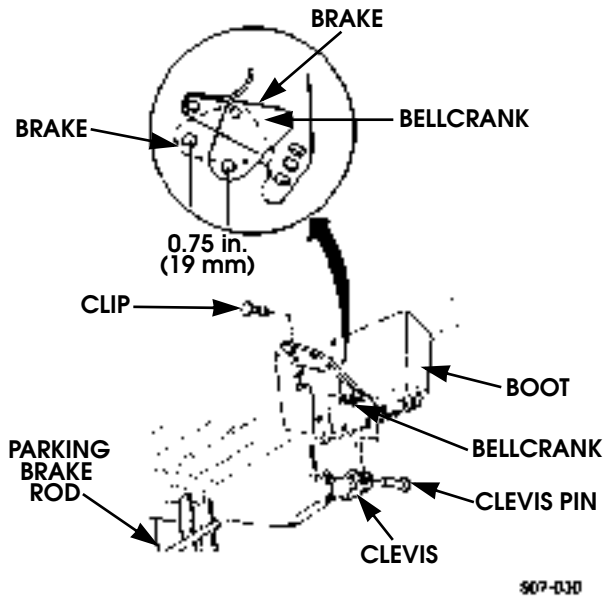

Figure 7-30: Parking Brake Adjustment
6. Install brake clevis on lever with clevis pin, washer, and cotter pin (Figure 7-30).
2. Remove six clips and spread boot to allow access to cotter pin (Figure 7-30).
9. Install six clips in boot (Figure 7-30)